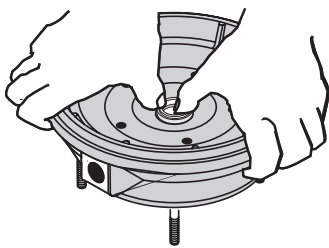
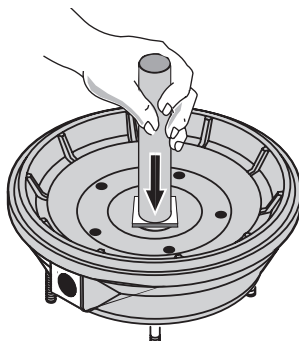

Figure 11A
Figure 11B
- C. With finger pressure press seat firmly and squarely into cavity. See Figure 11A. Polished face of seat faces inside of pump. If seat will not locate properly, place cardboard washer over polished face and use piece of 3/4" standard pipe for pressing purposes. See Figure 11B.